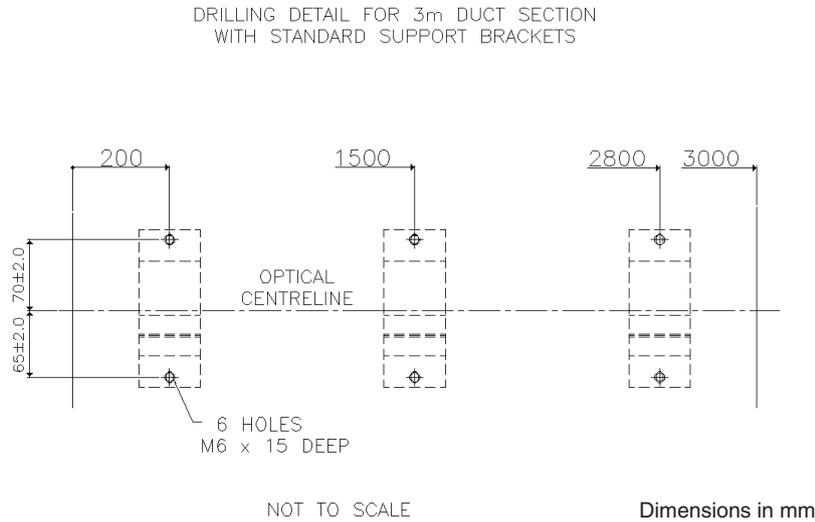

Figure 7 – Drilling detail for standard support brackets
1. Prepare the machine for the ducting by drilling and tapping M6 (¼") mounting holes as necessary for the number of support brackets being used (see Figure 7). Three support brackets are used for each 3 m length of ducting.